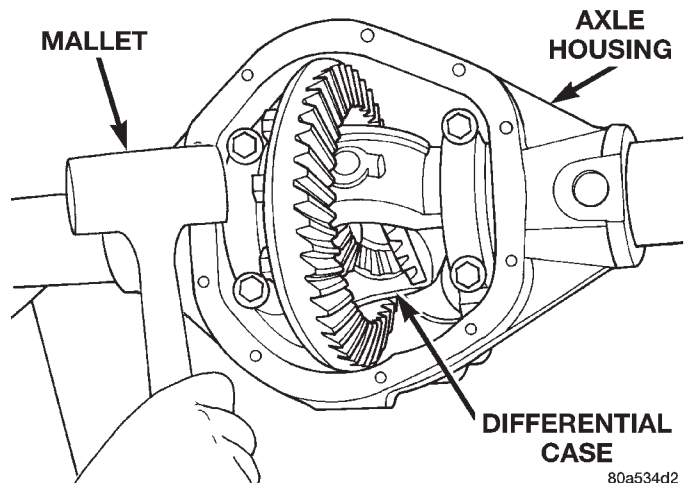
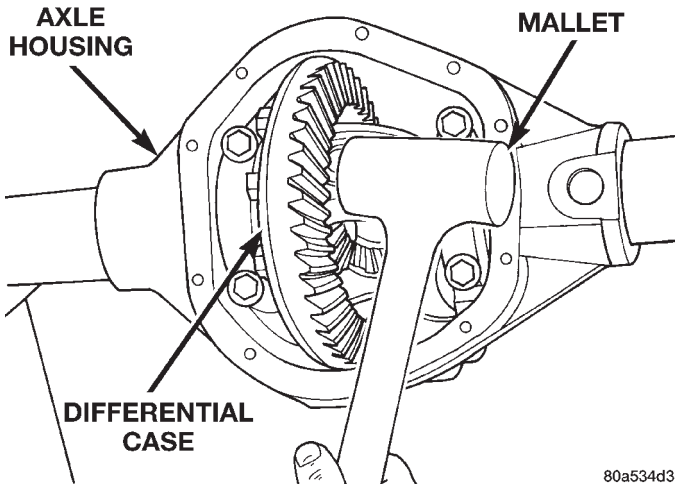

Fig. 63 Seat Pinion Gear Side Differential Dummy Side Bearing
Fig. 64 Seat Ring Gear Side Differential Dummy Side Bearing
- (7) Using a dead-blow type mallet, seat the differential dummy bearings to each side of the axle housing (Fig. 63) and (Fig. 64).
- (17) Install the pinion gear in axle housing. Install the pinion yoke and establish the correct pinion rotating torque.
- (18) Install differential case and dummy bearings D-348 in axle housing (without shims), install bearing caps and tighten bolts snug.
- (19) Seat ring gear side dummy bearing (Fig. 64).